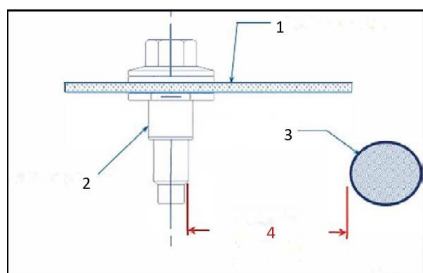

Fig. 2
- Fasteners (and/or alternative fastening methods) that protrude below the vehicle floor must be AT LEAST 50.8 mm (2.0") away from all surrounding high-/low-voltage cables and/or coolant lines and/or hydraulic brake lines to prevent damage/crushing. (Figure 2)